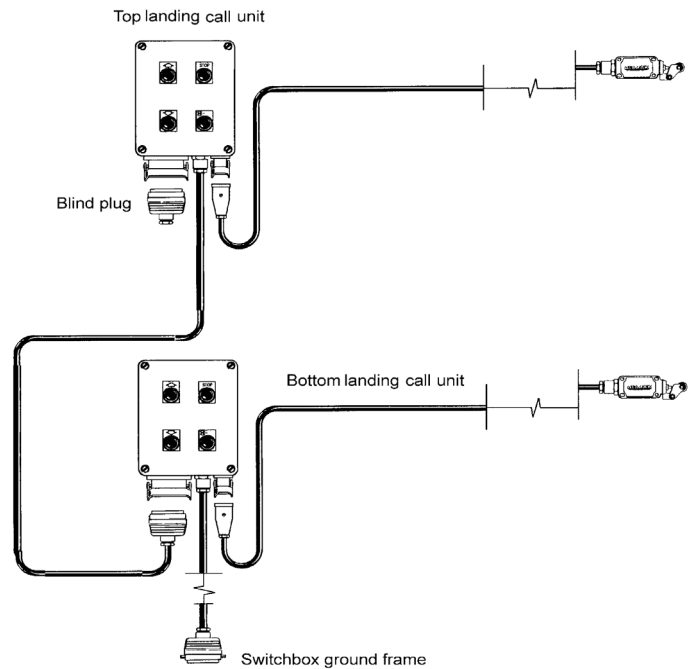

Fig.H.33 Landing gate arrangement
57. Connect the cable of the landing gate limit switch to the call landing unit as shown in the fig.H.33.